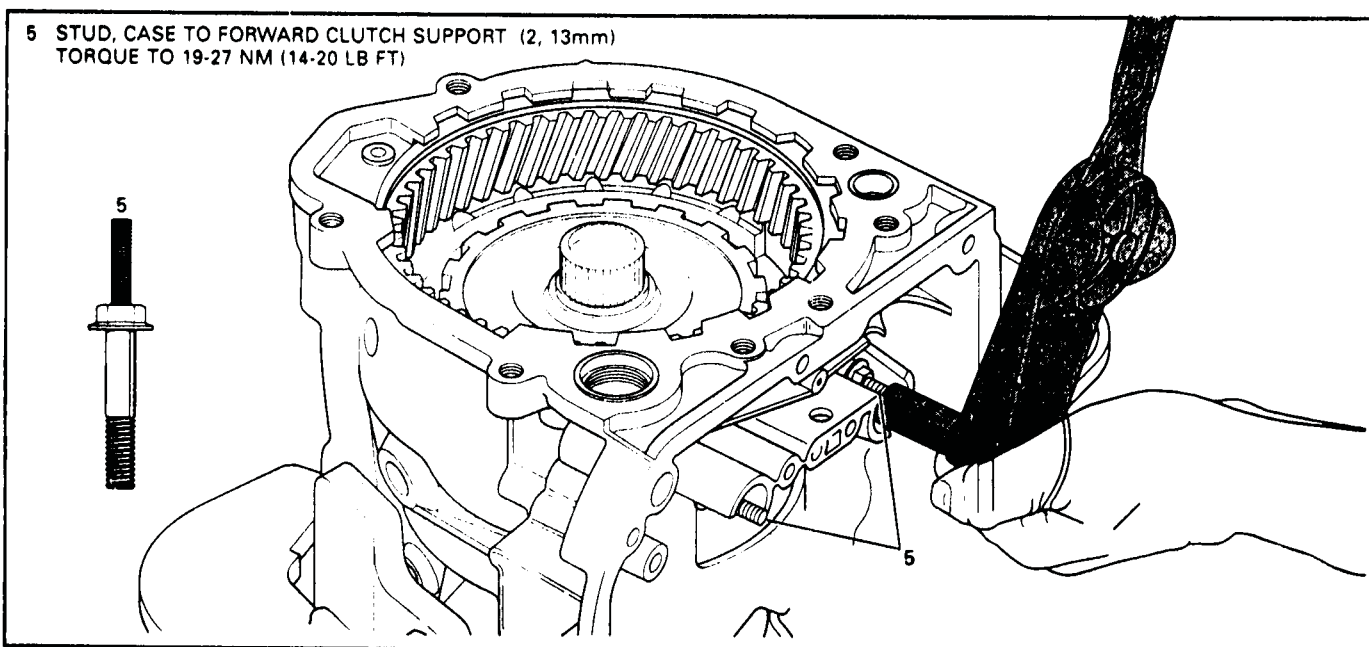

Figure 100
9. Install and tighten the studs into the support as shown in Figure 100.